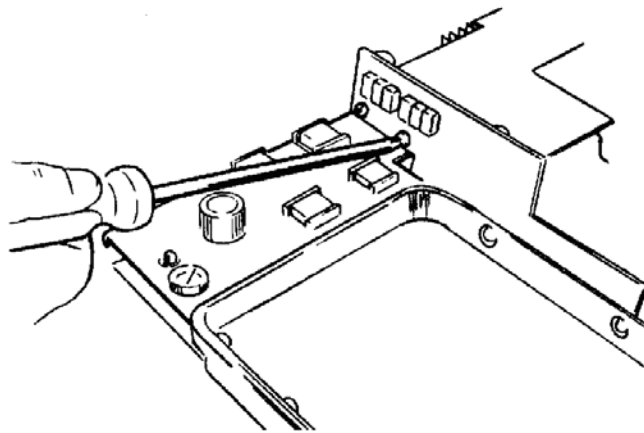

Figure 2-12. Switch plate removal.
(1) Remove the two mounting screws on board 590235 and carefully lift the board away (figure 2-12).